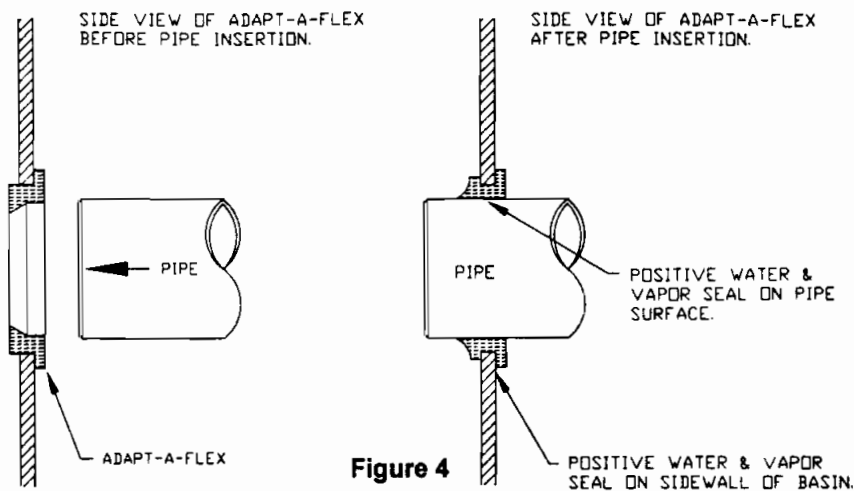

Figure 4
3. Install Adapt-A-Flex fitting in the opening. See Figure 4.
All discharge and inlet lines should now be connected. To install the inlet pipe into the Adapt-A-Flex fitting, chamfer the end and lube the pipe with soapy water for ease of installation, see Figure 4. An **OPTIONAL** Adapter or Caulking hub may be used in place of the Adapt-A-Flex fitting, see Sections B-3.2 and B-3.3.